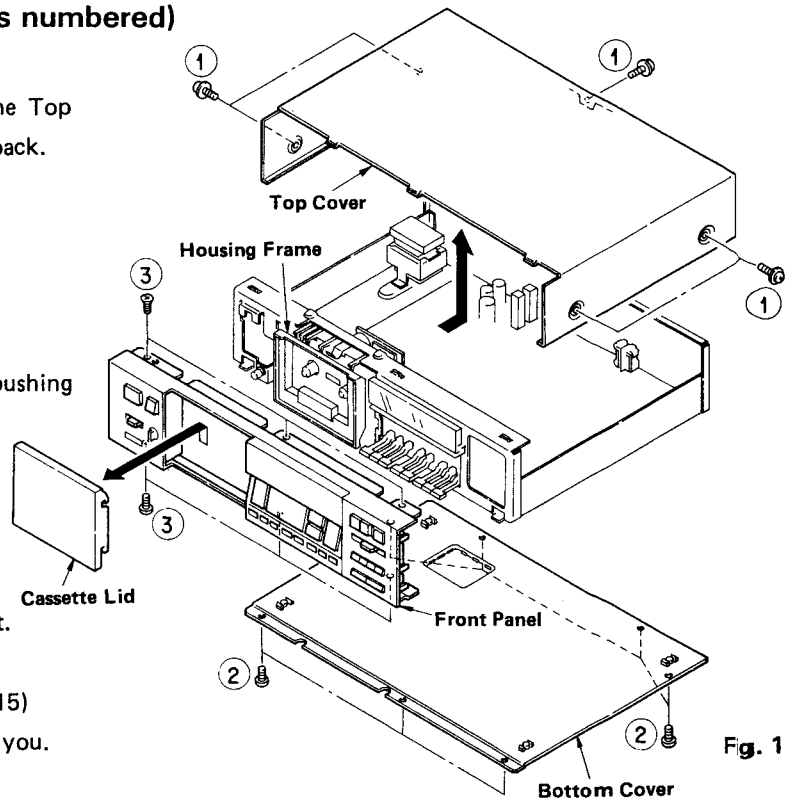

Fig. 1
- a. Remove 5 screws of ① of Fig. 1, remove the Top Cover trying to lift it up sliding it a little to the back.
- a. Remove 7 screws of ② of Fig. 1.
- c. Take off 6 screws of ③ of Fig. 1.